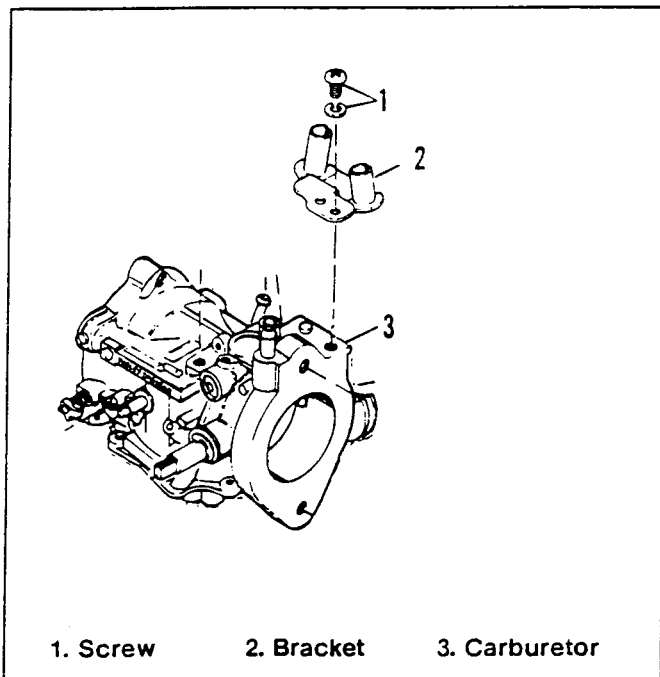

Figure 3. Throttle Cable Bracket Installation
2. See Figure 3. Remove screw (1) and remove "old" bracket (2).